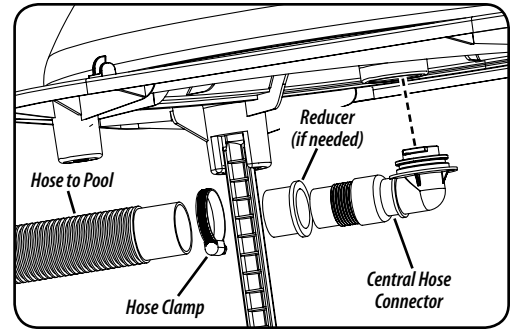

Figure 2
- 2) Using a hose clamp, secure the loose end of your existing pool return hose to the center hose connector (see figure 2).